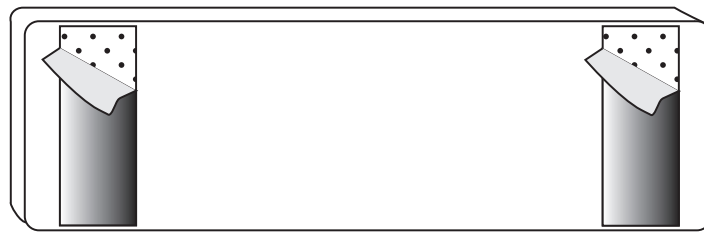

Figure 4 – Peel backing from mounting strips to expose adhesive
- Peel the backing from the mounting strips to expose adhesive (Figure 4). Leave both sides of the strips pressed together to ensure the strips will align between the tag and the windshield. Apply the tag to the windshield using moderate pressure.